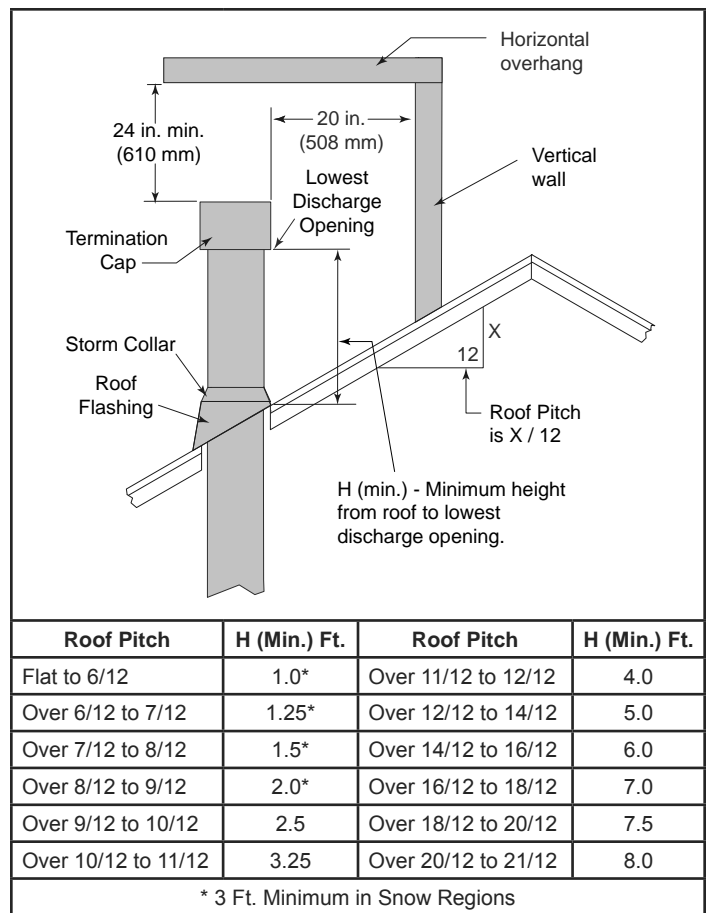

Figure 3.24 - Minimum Height from Roof to Lowest Discharge Opening
- The maximum angular variation allowed in the system is 270°. Figure 3.24
- For the minimum height of the vent above the highest point of penetration through the roof refer to Figure 3.24.